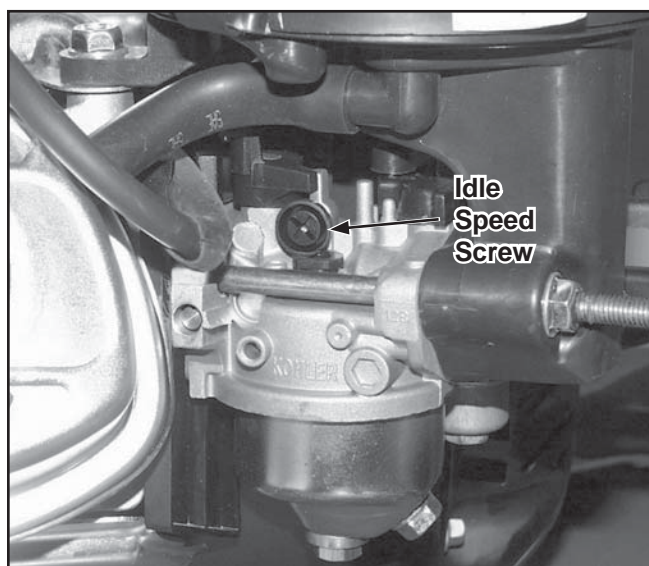

Figure 5-7. Carburetor Adjustments.
2. **Low Idle Speed Setting:** Place the throttle in the **idle** or **slow** position. Set the low idle speed to 1800 RPM (± 150 RPM) by turning the low idle speed screw in or out. See Figure 5-7.